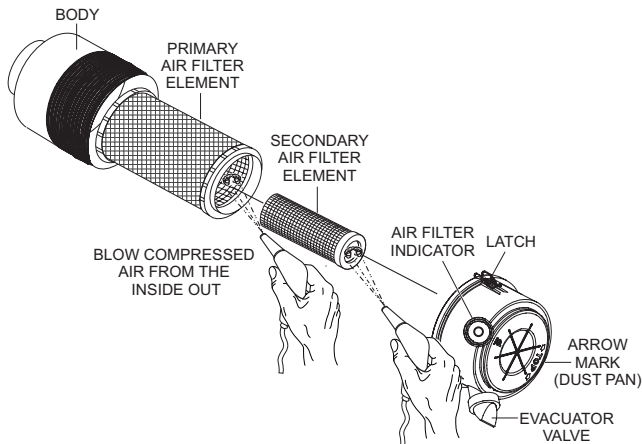

Figure 67. Engine Air Cleaner
This Isuzu diesel engine is equipped with a replaceable, high-density, paper air cleaner element (Figure 67). The air cleaner is also equipped with an inner (secondary) element that is used as a backup filter should the primary element become damaged. Check the air cleaner daily or before starting the engine. Replace the air cleaner as needed.
1. Release the latches that secure the cover to the air cleaner body (Figure 67).
2. Remove the air cleaner cover (Figure 67) and set it aside.
3. Remove both the primary and secondary air cleaner elements (Figure 67).
5. To clean the primary element (paper air filter) as shown in Figure 67, tap the filter element several times on a hard surface to remove dirt, or blow compressed air, not to exceed 30 psi (207 kPa, 2.1 kgf/cm²), through the filter element from the inside out.
8. Clean the inside of the air cleaner body (Figure 67).